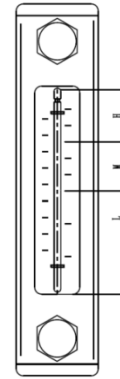

Figure 1-1 Hydraulic oil dipstick
- Check the oil dipstick on the hydraulic oil tank. The liquid level shall be within the M range as shown in Figure 1-1. If the liquid level is lower than M, the hydraulic oil shall be filled. Select the hydraulic oil grade according to the temperature.